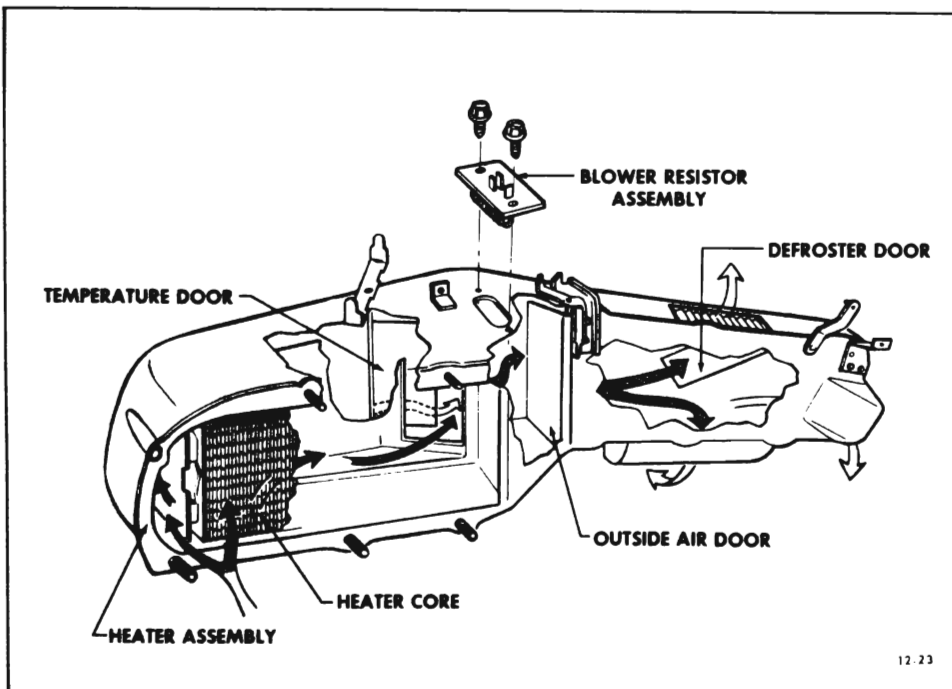

Figure 12-4 Heater System Air Flow
2. **Heater Assembly** - The heater assembly (see Figure 12-4) houses the heater core and the doors necessary to control mixing and channeling of the air. Air entering the heater assembly divides into two channels: (1) through the heater core
7. Remove connector from blower motor resistor (see Figure 12-4).